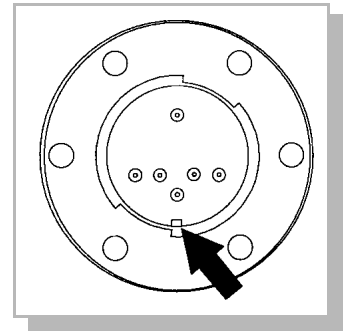
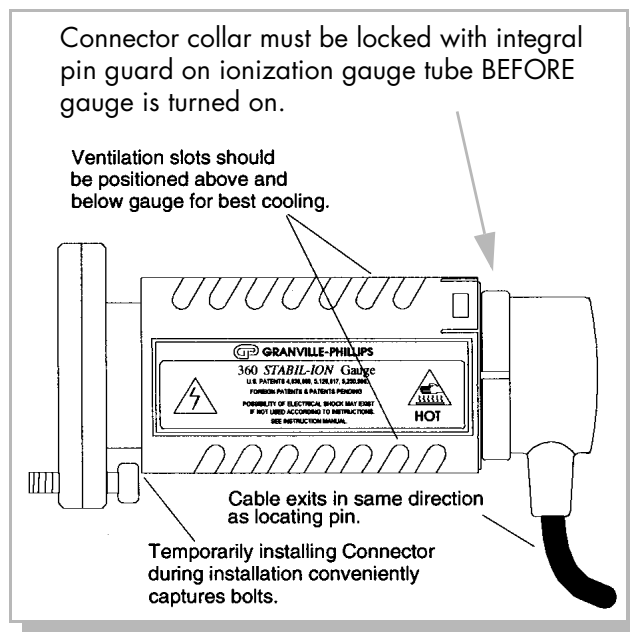

Figure 3-1
Figure 3-3 Stabil-ion Gauge with Connector and Guard.
- Any mounting orientation may be used. However, to minimize the possibility of excessive temperature at the electrical connector when degassing, do not install the Stabil-Ion Gauges with the electrical connector above the gauge. If it is necessary to install the gauge with the connector on top, degas time must be limited to 10 minutes/hour. See Section 2.1.8 on page 2-16. When mounted horizontally, the ventilation slots in the Guard will be oriented for best cooling if the gauge is installed with the locating key in the pin guard on the bottom. See Figure 3-1 and Figure 3-3. Note in Figure 3-3 that the cable will exit in the direction the locating key is oriented.